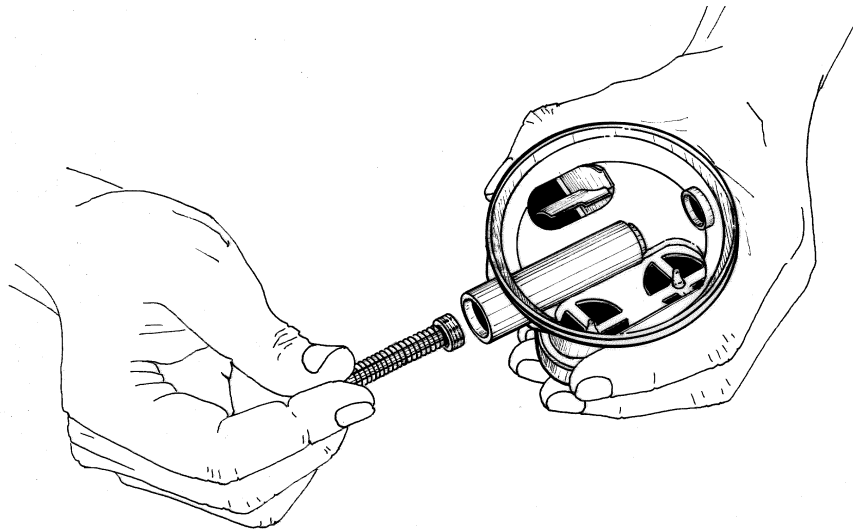

FIG. 4
5. Position the spring (16) on the poppet seat holder (17).
6. Position the adjusting screw (11) on the square end of the 2nd Stage poppet seat holder and insert the entire group inside the 2nd Stage case. (Fig. 4)